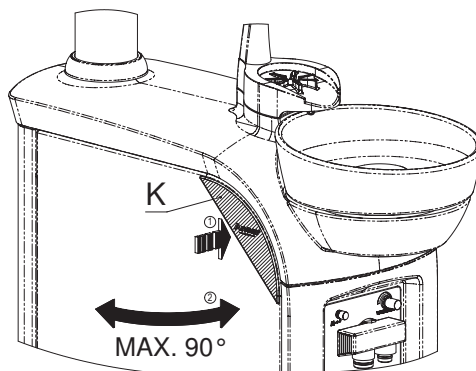

Fig. 8
Front panel (C) supports cannula filter, (D) is a lateral door towards Water Unit (fig. 8).